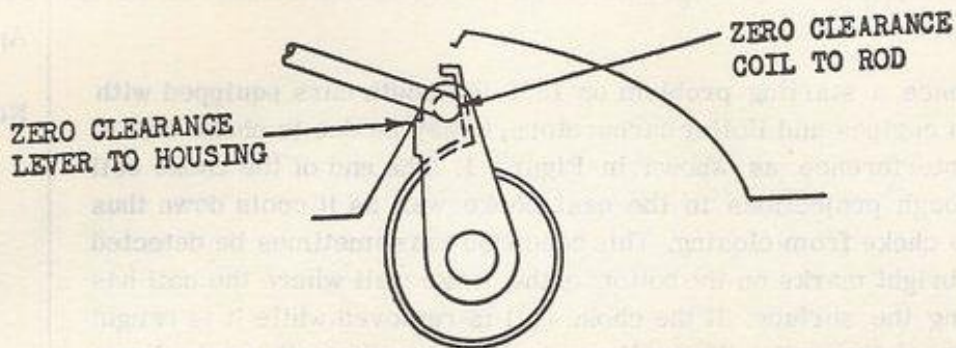

Figure 2. - UNDISTORTED COIL AT 75° F
2. The choke coil should then touch the rod when the rod is in its extended position as shown in Figure 2. If such contact does not exist, the coil has been distorted and a new choke assembly part number 2658398 should be used. Rework either the original choke unit if the coil is undistorted or the new 3283 assemblies as described below. (New assemblies with 3283-1 or 3283-2 numbers require no rework).